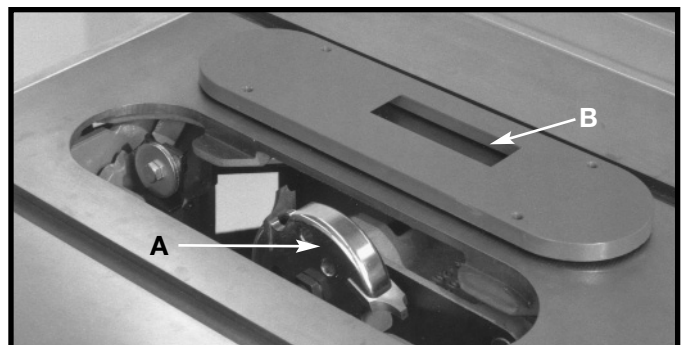

Fig. 64
1. A moulding cutterhead (A) Fig. 64 is shown assembled to the saw arbor.